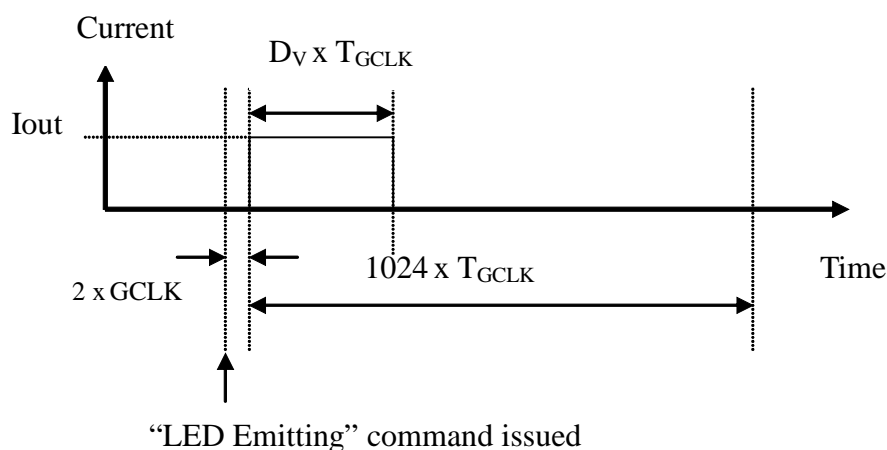

Figure 2. PWM Current Output
- B. There are 2 GCLK latencies between the latched *LED Emitting/Disable* command and PWM start/stop. This is shown in Figure 2.
ST2226A adjusts the LED luminance using PWM (pulse width modulation) technique. The luminance data (D_V) has a resolution of 10 bits (1024 steps) and can be set independently for each LED. The relationship between I_{out} , luminance data, and emitting time is shown in Figure 2.